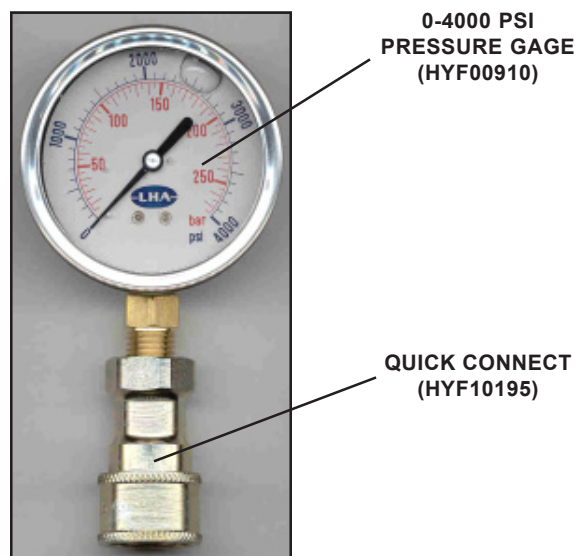

FIGURE 13.23
Two pressure gages (0-4000) are necessary to perform this adjustment. One connected to the pressure port (PP) and the other on the load sense port (LS). See figure 13.23.